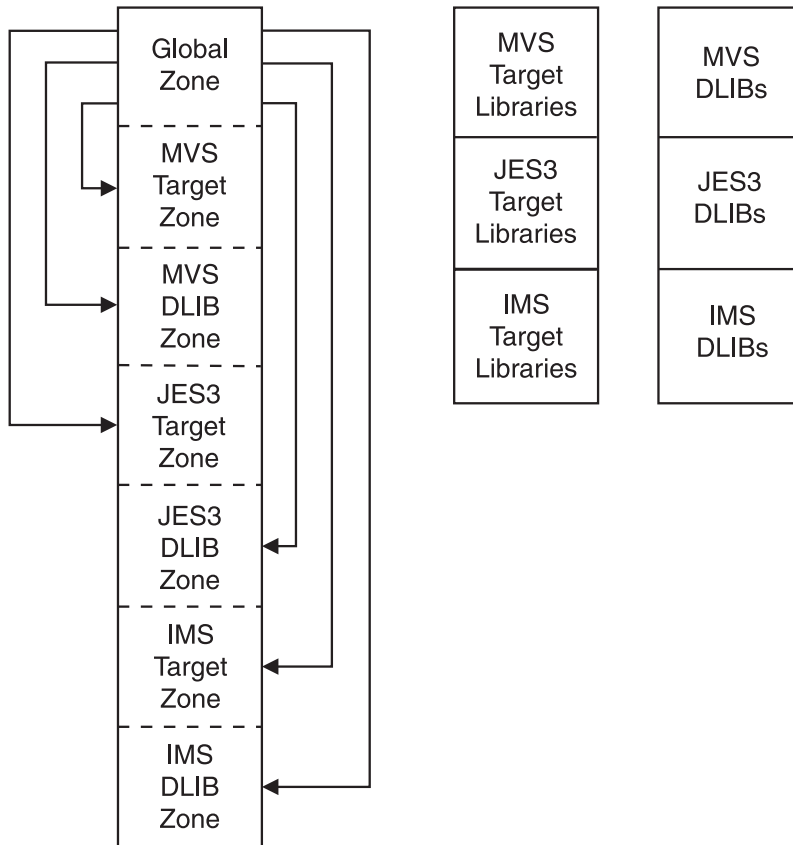

Figure 26. Using one CSI for the whole system
*Example 2: Using a single CSI for the whole system:* In Figure 26 on page 55, all the SMP/E control information for the system is contained in a single CSI. The system structure is reflected by separate zones for MVS, JES3, and IMS. This CSI structure provides a single control point from which to manage or query the entire system.